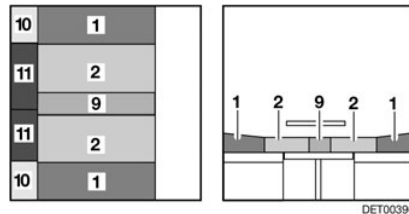

Fig. 43 After conversion
- Pull the seat cushions (Fig. 43,2) forwards onto the table.
- Insert the back cushions (Fig. 43,1) between the seat cushions and the wall.
- Place the additional cushion (Fig. 43,9) between the seat cushions.
- Insert the additional cushions (Fig. 43,10) between the cushions and the wall.
- Insert the additional cushions (Fig. 43,11) between the cushions and the wall.